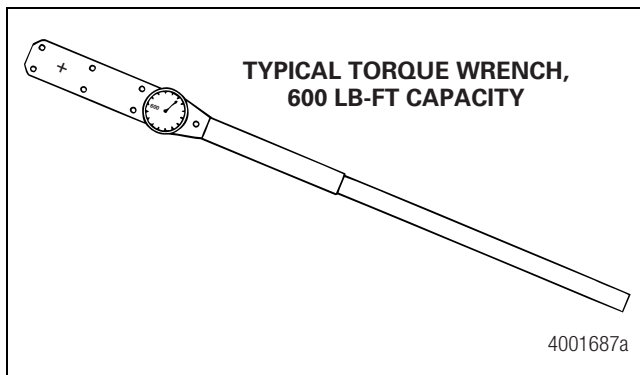

Figure 7.45
7. Ensure that the fasteners are tightened in the correct tightening sequence and to the correct torque specifications. Use a torque wrench to tighten the fasteners. Figure 7.45.